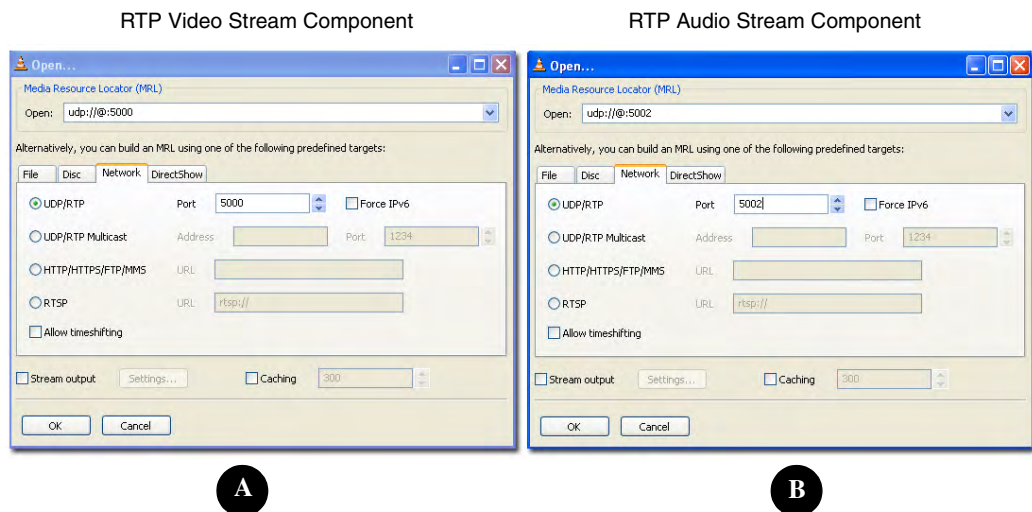

FIG. 49 VLC Player Adjustments (using a sample RTP stream to display each component separately)
10. Within the Port field of the **Network** tab (in the second player window - **B** in FIG. 49), enter the value used with in the *Target Audio Port* field in the MAX's Encoder Profiles page. This value can not match the value used for the previously entered Target Port.